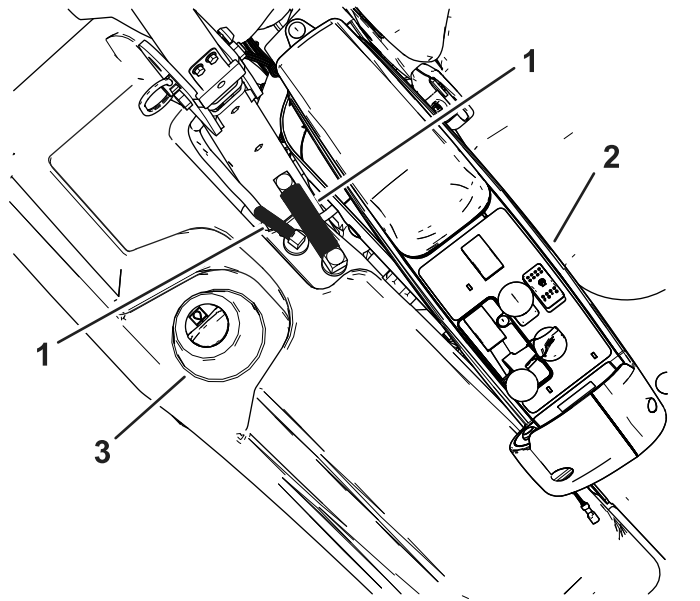

Figure 2
1. Remove the vent hoses shown in Figure 2.